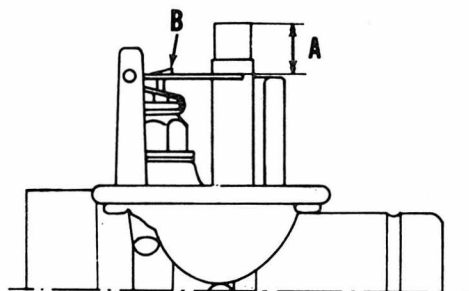

Fig. S13-4—Float level (A) may be adjusted by bending tang (B).
Float level (A—Fig. S13-4) should be  $\frac{1}{8}$  inch (10.5 MM) and is adjusted by bending tang (B).